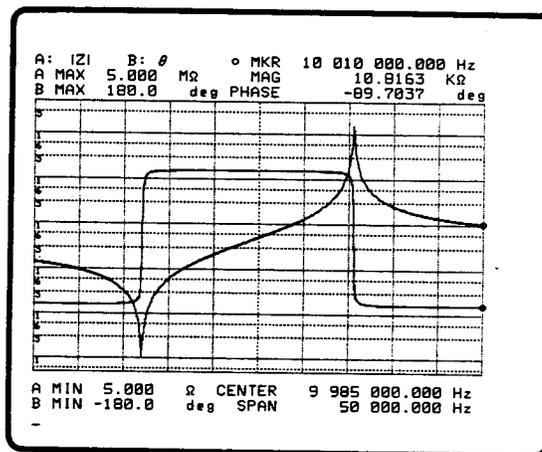

Figure 3-158. Measurement Results ($|Z|-\theta$)
4. The measurement results will be displayed on the screen as shown in Figure 3-158. Use the '**AUTO SCALE A**' and '**AUTO SCALE B**' softkeys to scale the measured data.